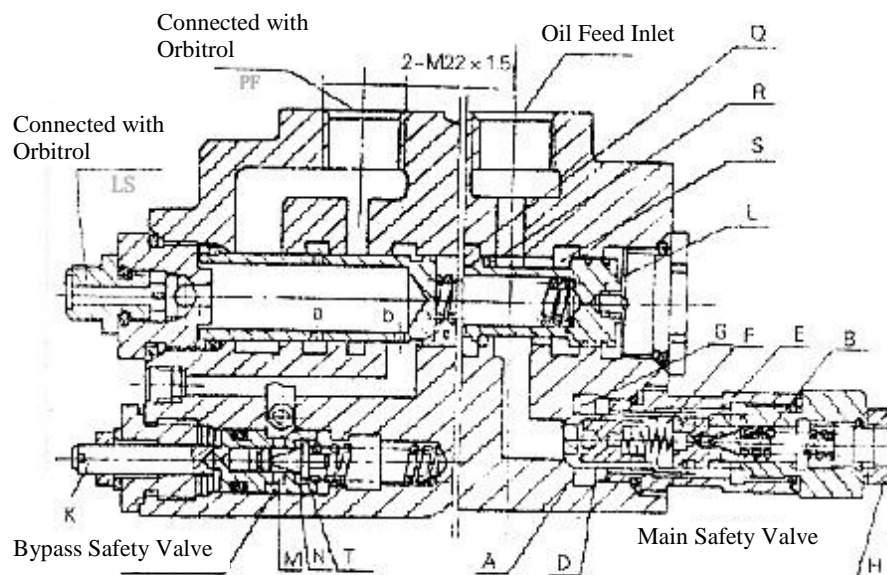

Fig 7-5
6.3.2 Main Safety Overflow Valve and Bypass Safety Valve (Fig 7-5)